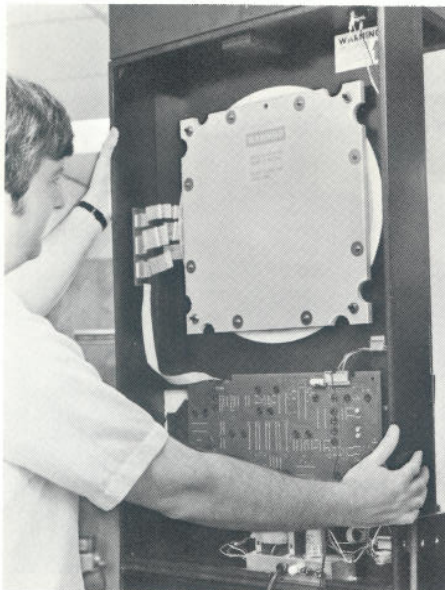

Figure 3. Attaching top assembly to base.
- c) Install completed top assembly into base as shown in Figure 3.